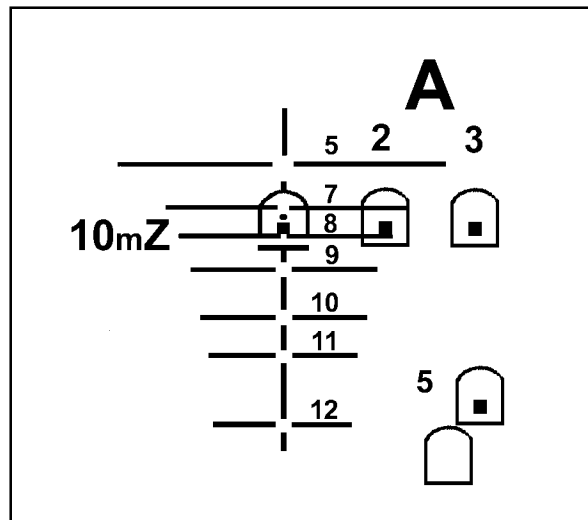

Figure G-47. 10-meter reticle aiming point.
(1) Look through the telescope and align the reticle's 10-meter zeroing mark on the center base of the aiming points on the basic machine gun marksmanship target (Figure G-47, page G-44).